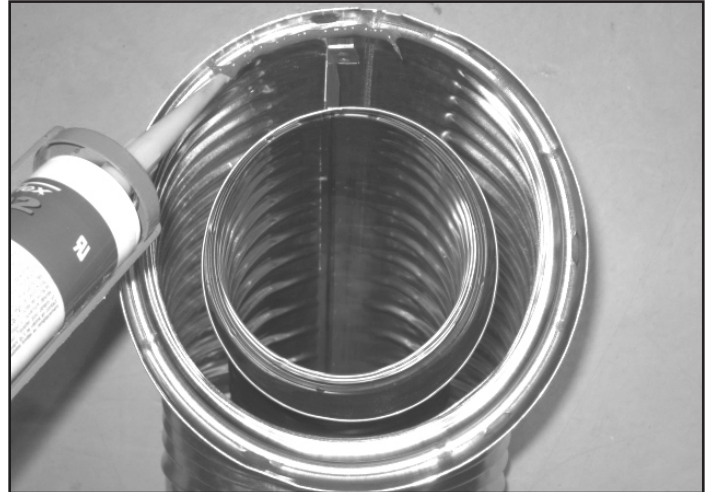

Figure 7.1 - High Temperature Silicone Sealant
- Apply a bead of silicone sealant (300° F minimum continuous exposure rating) inside the female outer pipe joint prior to joining sections, Figure 7.1.